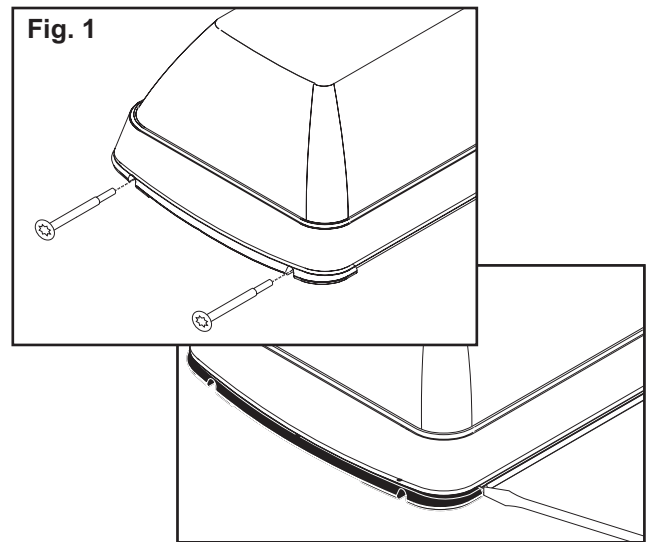

Fig. 1
1. Remove the two Torx head screws that secure the end cap to the base (Fig. 1).